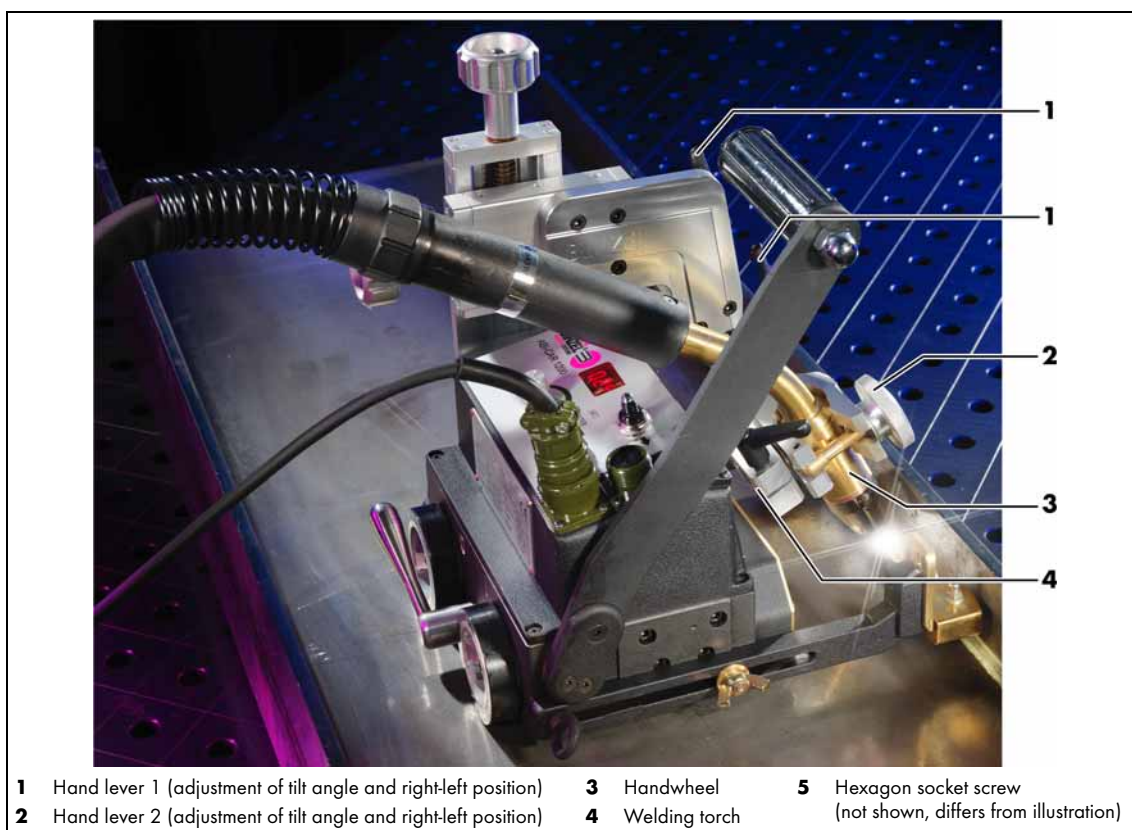

Fig. 11 Mounting the welding torch*
* Fig. 11 is illustrative. ABI-CAR E-1200 is shown. Discrepancies are possible.